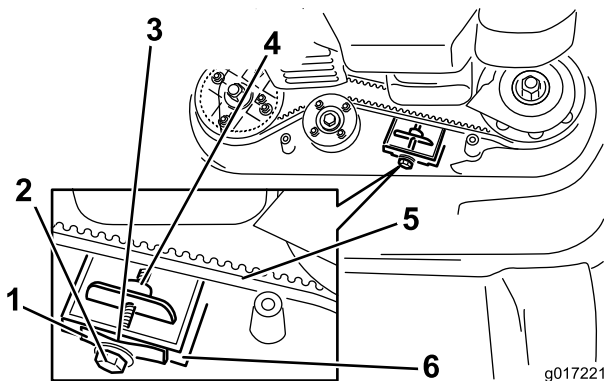

**Figure 29**
1. Remove the blade-drive system cover (Figure 29).